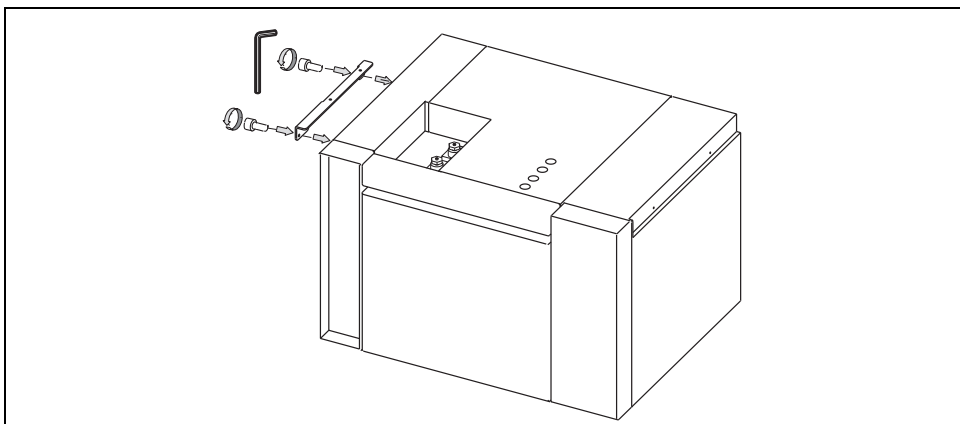

Figure 4-7. Spacer Plate Installation on the Second Agilent 5890 GC
6. Mount the spacer plate on the left side of the second GC unit as shown in Figure 4-7.